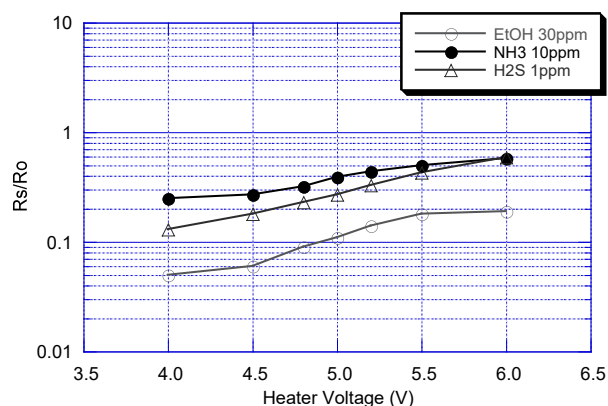

Fig. 9 - Heater voltage dependency in various gases
Figure 9 shows the change of the sensor resistance ratio in ethanol, ammonia, and hydrogen sulfide according to variations in the heater voltage (VH). The Y-axis shows the ratio of sensor resistance in gases at various heater voltages (Rs) compared to sensor resistance in clean air at the same heater voltage (Ro).